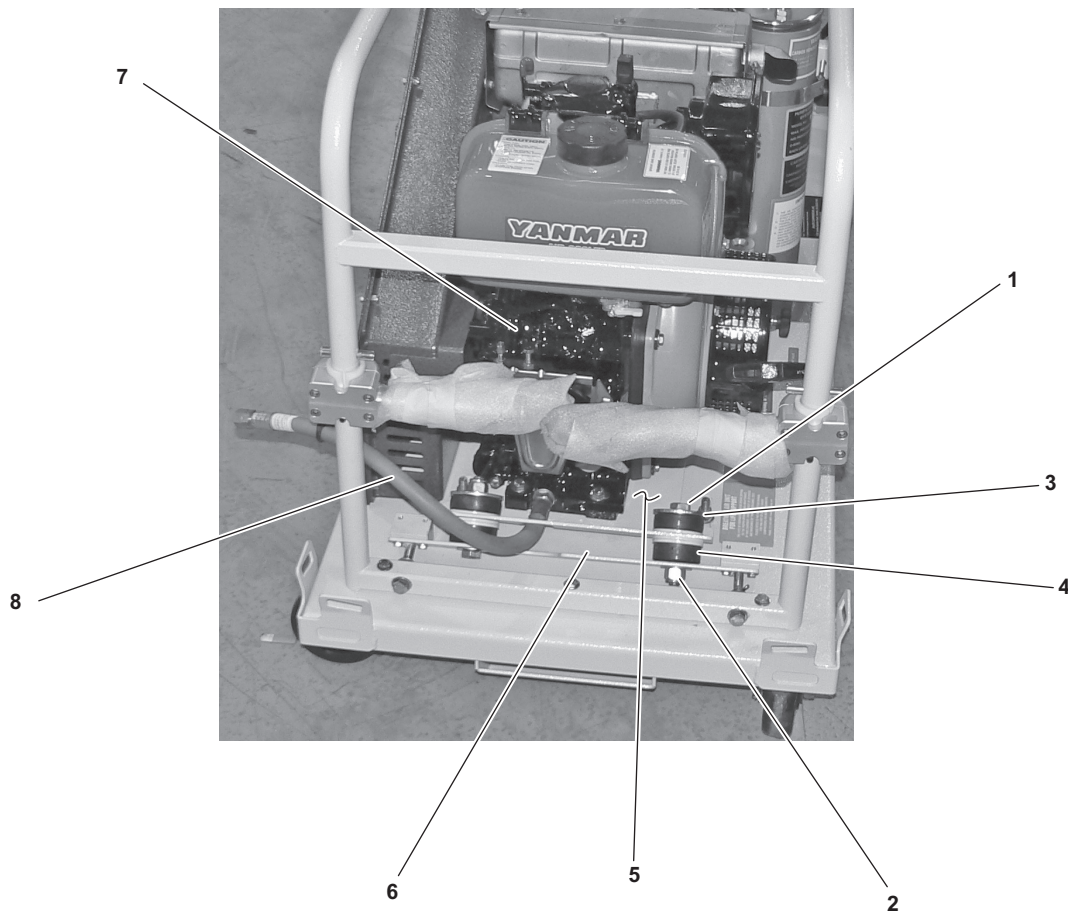

Figure 6-49. Diesel Engine Removal
- (1) Perform the Outer Belt Guard Removal procedure (paragraph 6.4.1.b.).
- (2) Perform the V-Belt Removal procedure (paragraph 6.4.3.b.).
- (3) Perform the Sheave Removal procedure (paragraph 6.4.4.b.).
- (4) Remove the four bolts (figure 6-49, item 1), nuts (figure 6-49, item 2), 12 shims (figure 6-49, item 3), and 8 vibration eliminators (figure 6-49, item 4) that secure the diesel engine mounting plate (figure 6-49, item 5) to the diesel engine base plate (figure 6-49, item 6).
- (5) Using two crewmembers, remove the diesel engine (figure 6-49, item 7) and the diesel engine mounting plate (figure 6-49, item 5) from the diesel engine base plate (figure 6-49, item 6).
- (6) Remove the oil drain hose (figure 6-49, item 8) from the diesel engine (figure 6-49, item 7).
- (3) Install the oil drain hose (figure 6-49, item 8) in the diesel engine (figure 6-49, item 7).
- (4) Using two crewmembers, install the diesel engine (figure 6-49, item 7) and the diesel engine mounting plate (figure 6-49, item 5) on the diesel engine base plate (figure 6-49, item 6).
- (5) Install the four bolts (figure 6-49, item 1), nuts (figure 6-49, item 2), 12 shims (figure 6-49, item 3), and eight vibration eliminators (figure 6-49, item 4) that secure the diesel engine mounting plate (figure 6-49, item 5) to the diesel engine base plate (figure 6-49, item 6).
- (6) Perform the Sheave Installation procedure (paragraph 6.4.4.c.).
- (7) Perform the V-Belt Installation procedure (paragraph 6.4.3.c.).
- (8) Perform the V-Belt Tension Adjustment procedure (paragraph 6.4.2.b.).
- (9) Perform the Outer Belt Guard Installation procedure (paragraph 6.4.1.c.).
- (10) Fill the diesel engine (figure 6-49, item 7) with engine oil IAW PMCS (Chapter 4).
- (11) Operate the E-BAC/SS (Chapter 2).
- (12) Perform an Air Sample Test (paragraph 6.5).
- (13) Return the E-BAC/SS to the desired readiness condition.